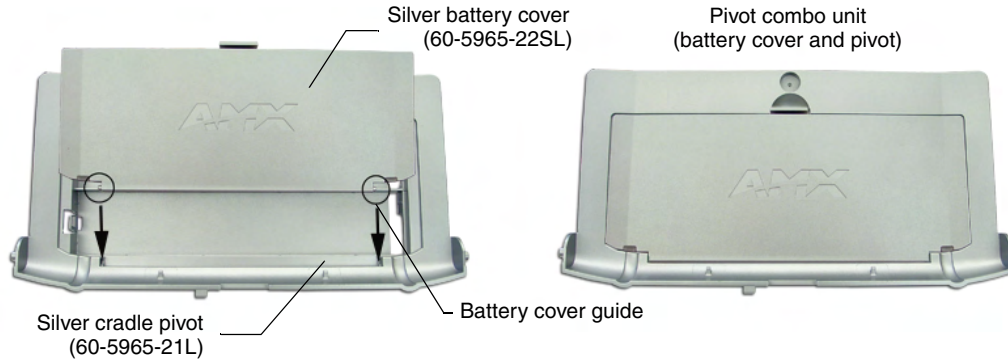

FIG. 26 Installation of silver cradle pivot and battery cover
4. Install the silver Battery Cover to the silver cradle pivot by inserting each battery cover guide into its corresponding opening along the sides of the pivot as shown in FIG. 26.